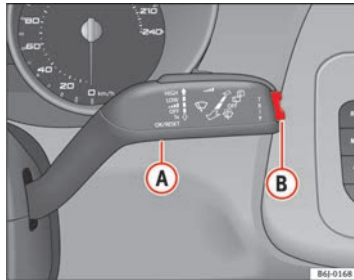

Fig. 34 Window wiper lever: button A and rocker switch B
- With the ignition switched on, briefly press button ⇒ Fig. 34 **A** on the window wiper lever to move from one memory to another.